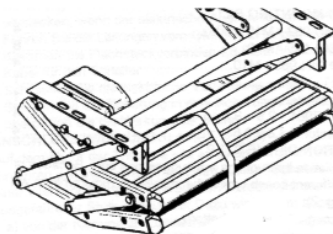

Fig. 3
- Loosen the square connection according to fig. 2 (actions 1, 2 and 3), push the footboard in (4) and tie it to the frame (fig. 3).